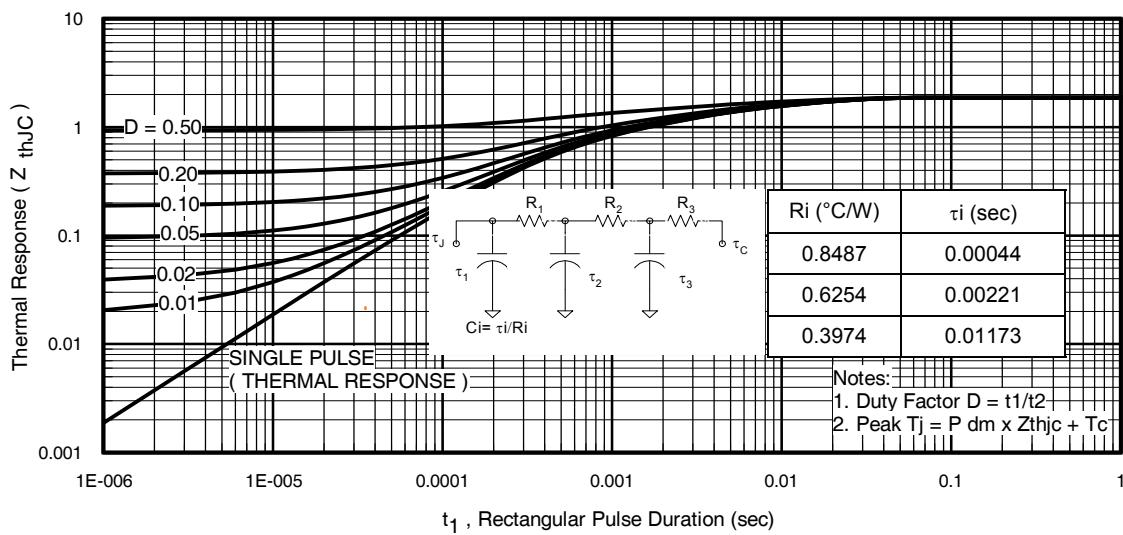
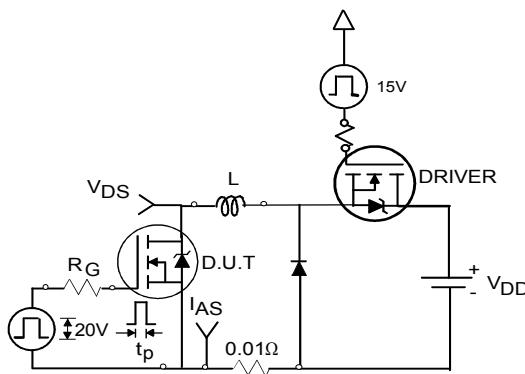

Fig 11. Maximum Effective Transient Thermal Impedance, Junction-to-Case
Fig 12a. Unclamped Inductive Test Circuit
- ① Repetitive rating; pulse width limited by max. junction temperature. (See fig.11)
- ② Limited by $T_{J\text{max}}$, starting $T_J = 25^\circ\text{C}, L = 0.18\text{mH}, R_G = 25\Omega, I_{AS} = 31\text{A}, V_{GS} = 10\text{V}$. Part not recommended for use above this value.
- ③ $I_{SD} \leq 31\text{A}$, $\text{di/dt} \leq 840\text{A}/\mu\text{s}$, $V_{DD} \leq V_{(\text{BR})\text{DSS}}$, $T_J \leq 175^\circ\text{C}$.
- ④ Pulse width $\leq 1.0\text{ms}$; duty cycle $\leq 2\%$.
- ⑤ $C_{oss \text{ eff.}}$ is a fixed capacitance that gives the same charging time as C_{oss} while V_{DS} is rising from 0 to 80% V_{DSS} .
- ⑥ Limited by $T_{J\text{max}}$, see Fig.12a, 12b, 15, 16 for typical repetitive avalanche performance.
- ⑦ This value determined from sample failure population 100% tested to this value in production.
- ⑧ This is applied to D2Pak, when mounted on 1" square PCB (FR-4 or G-10 Material). For recommended footprint and soldering techniques refer to application note #AN-994.
- ⑨ R_0 is rated at T_J of approximately 90°C .
3. Equation below based on circuit and waveforms shown in Figures 12a, 12b.